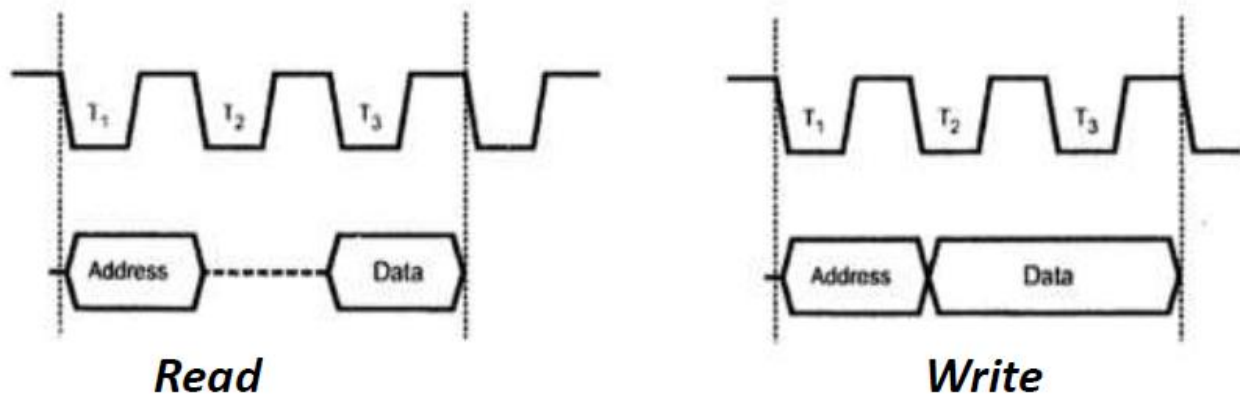

Fig.22 Data bus
- In **read machine cycle**, data will appear on the data bus during the later part of the T2 - state as shown in fig.22. This is because to read data from memory or I/O device it is necessary to select memory or I/O device, after the selection, device will put the data from the selected location on the data bus. This action needs finite time. This time is referred as “**Access Time**”.